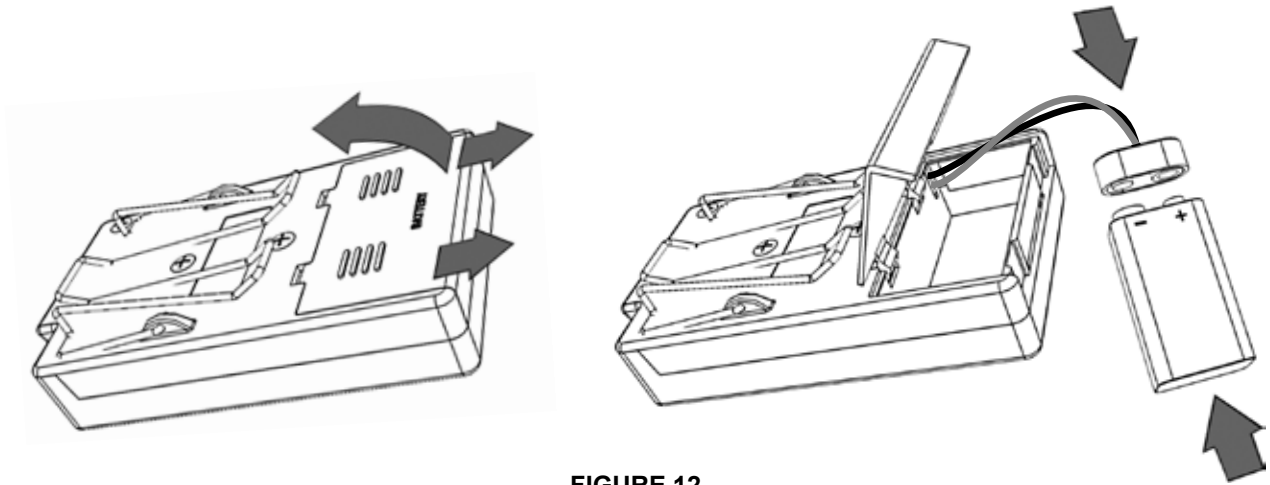

FIGURE 12
1. Press and slide the battery door open and connect the 9V battery as shown in figure 12.